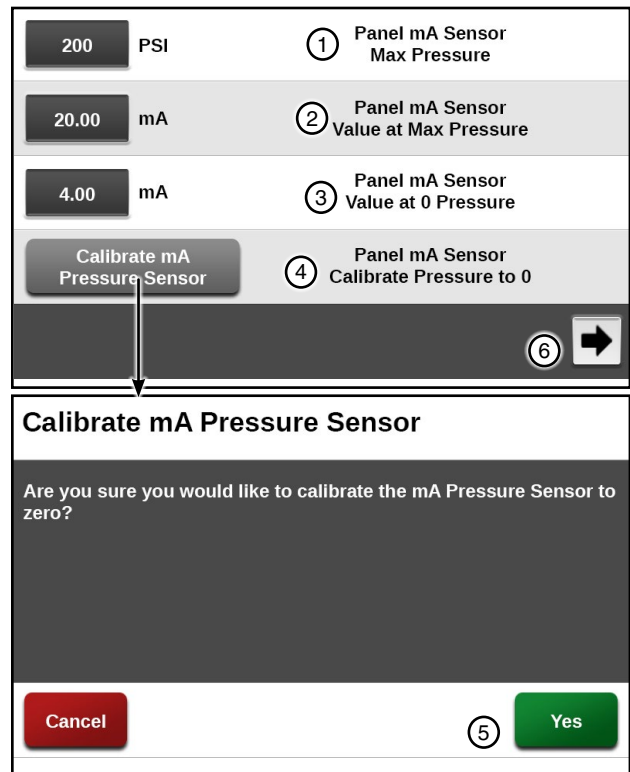

Figure 39-1 1. Sensor Max Pressure
16. Calibrate Pressure Sensors. See Figure 39-1